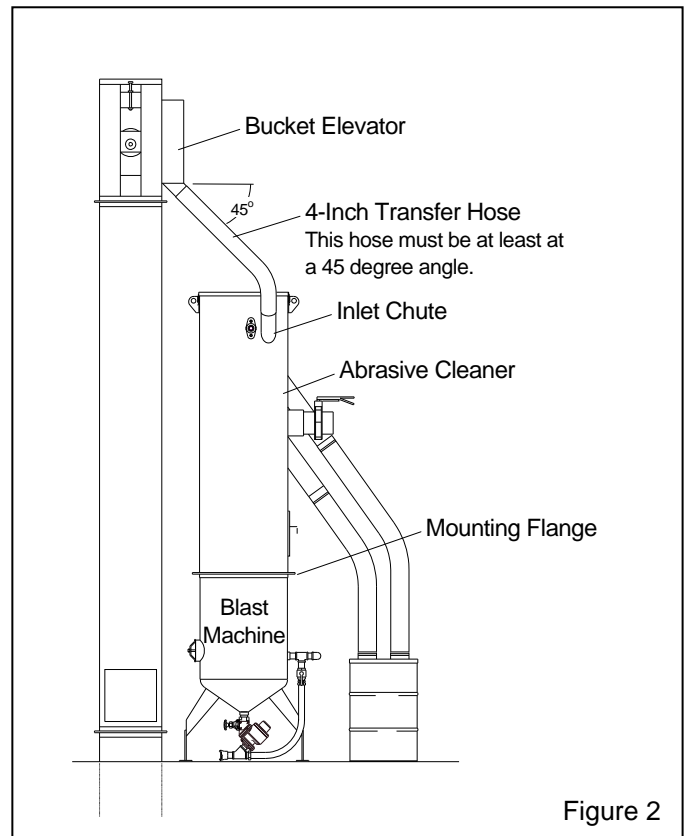
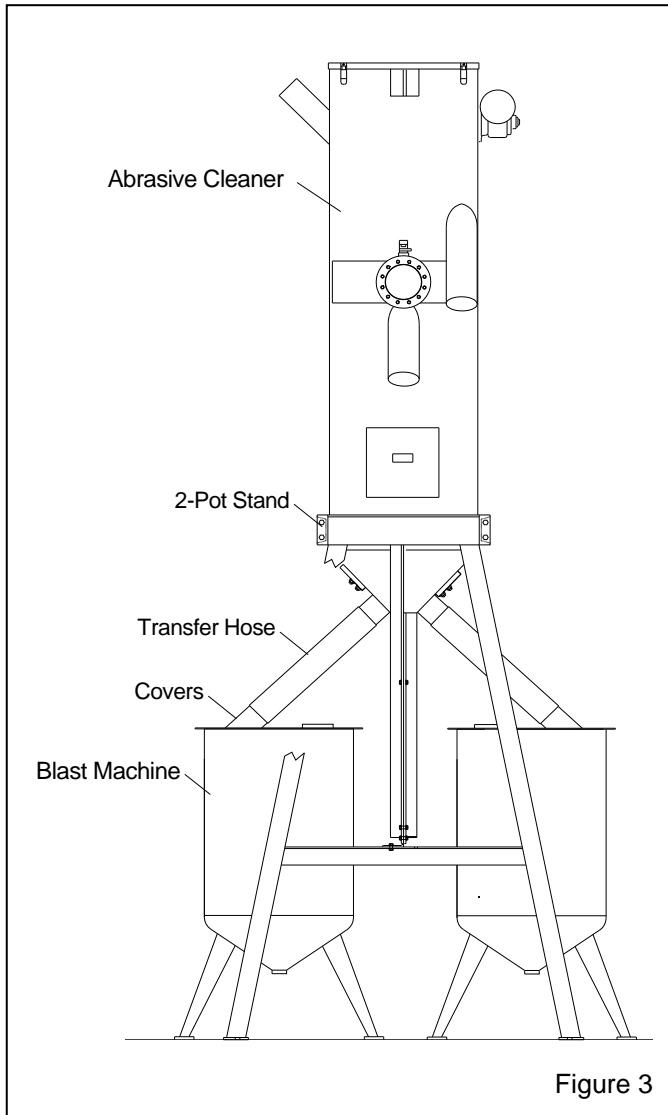

Figure 2
Figure 3
1.4.2 Typical abrasive cleaner set-ups are shown in Figures 2 and 3. Figure 2 shows an abrasive cleaner mounted over a single blast machine. Figure 3 shows a cleaner over two machines using a 2-pot stand assembly.